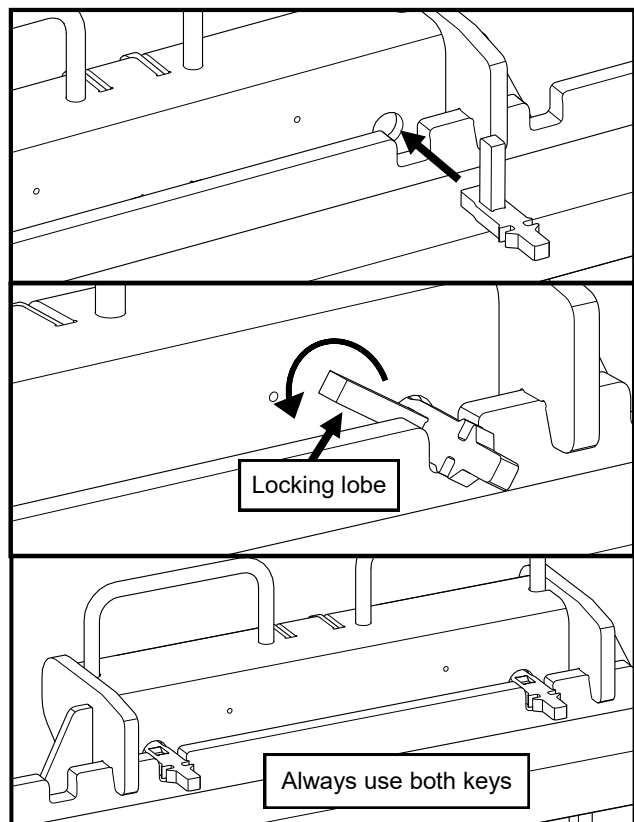

Fig. 8.5—Lock Keys
- 8.5 Pass the tethered lock keys through the detents on the fork frame and the holes in the mounting frame as shown in Fig 8.5. Push in until the locking lobe rests against the mounting frame and rotate until the locking lobe is hanging straight down. Be sure to install both keys.